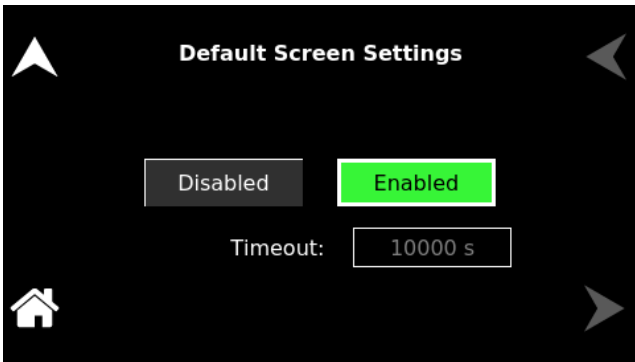
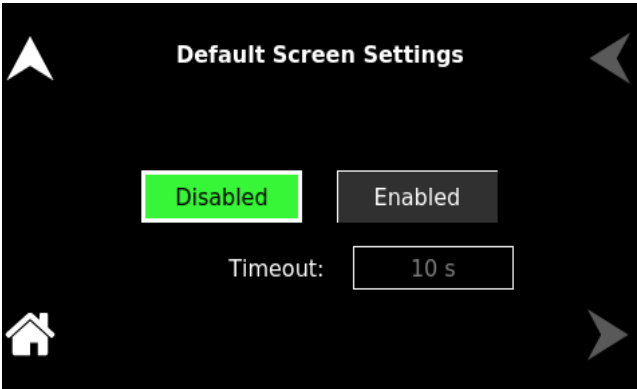

Figure 8-197. Default Screen Settings - Enabled
Figure 8-198. Default Screen Settings - Disabled
**Default Screen** Selects whether the Default screen (showing measured voltage, current and power) is enabled or disabled, refer to Figure 8-197 and Figure 8-198. It allows to set the time out if the default screen is enabled.